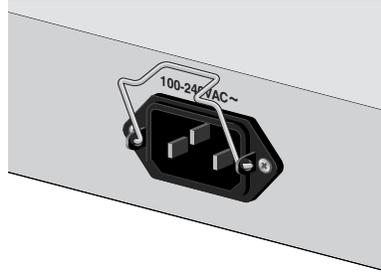

Figure 14 Power Cord Retaining Clip in the UP Position
1. Position the power cord retaining clip in the UP position, as illustrated in Figure 14.